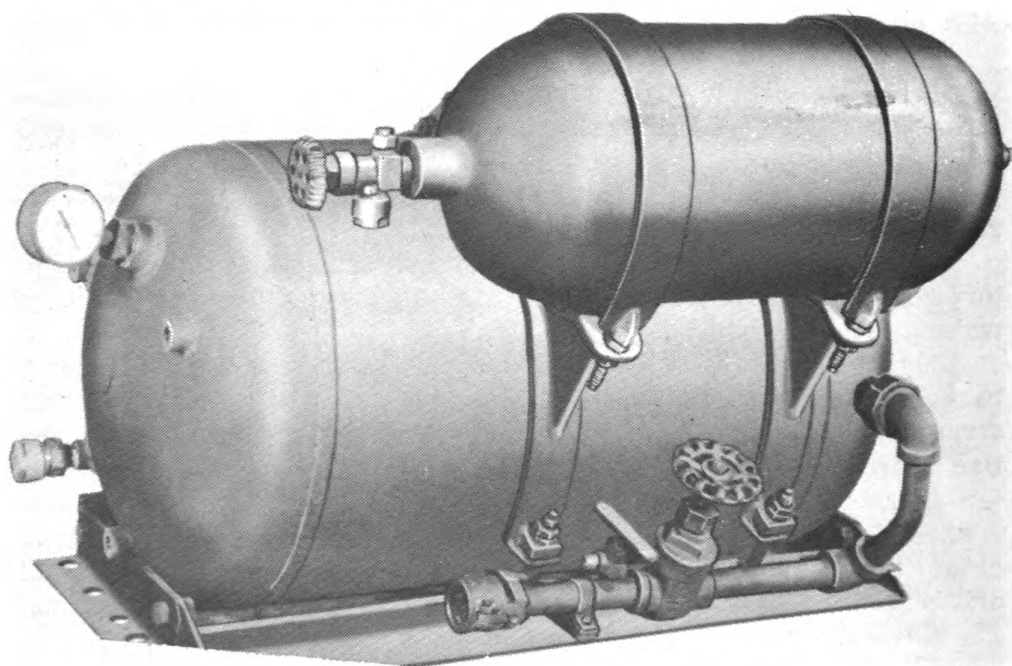
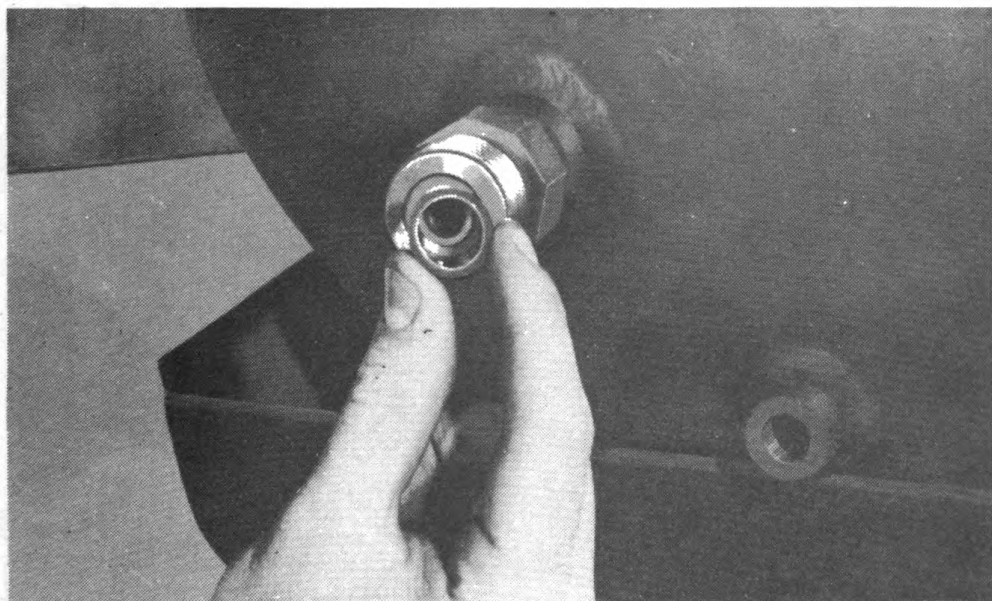

Fig. 19. Pressure container held in place by pressure container straps.
Fig. 20. Placing synthetic rubber washer in recess of fuel container pressure inlet union.
f. Pressure container. (1) Pass pressure container through assistant driver's door. Slide pressure container through the two pressure container straps. To ease this operation, fuel group may be shifted on sponson shelf to obtain clearance. Do not secure pressure container at this time; allow it to rest in straps (fig. 19). Remove thread protector cap.
(2) Turn fuel group so that its front end extends slightly over edge of sponson shelf.
g. Pressure line plate. (1) Pass pressure line plate, three stud bolts, three washers, loop, and synthetic rubber washer through assistant driver's door.
(2) Remove thread protector cap from pressure inlet of fuel container, making sure synthetic rubber washer is in recessed portion of pressure inlet union of fuel container (fig. 20).
(3) Insert three stud bolts and three washers in pressure line plate. Aline bolts with three tapped (internal threaded) bosses of fuel container. At the same time, aline pressure inlet union and its washer with coupling on fuel container. Screw all three stud bolts and pressure inlet union nut handtight. Uniformly tighten the three stud bolts, so